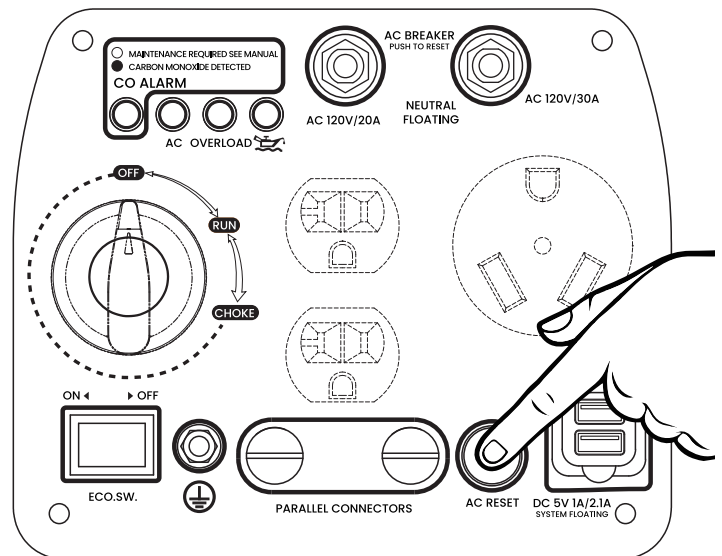

Figure 10: Press in reset breaker
3. Press in the reset breaker to reset it (see Figure 10).